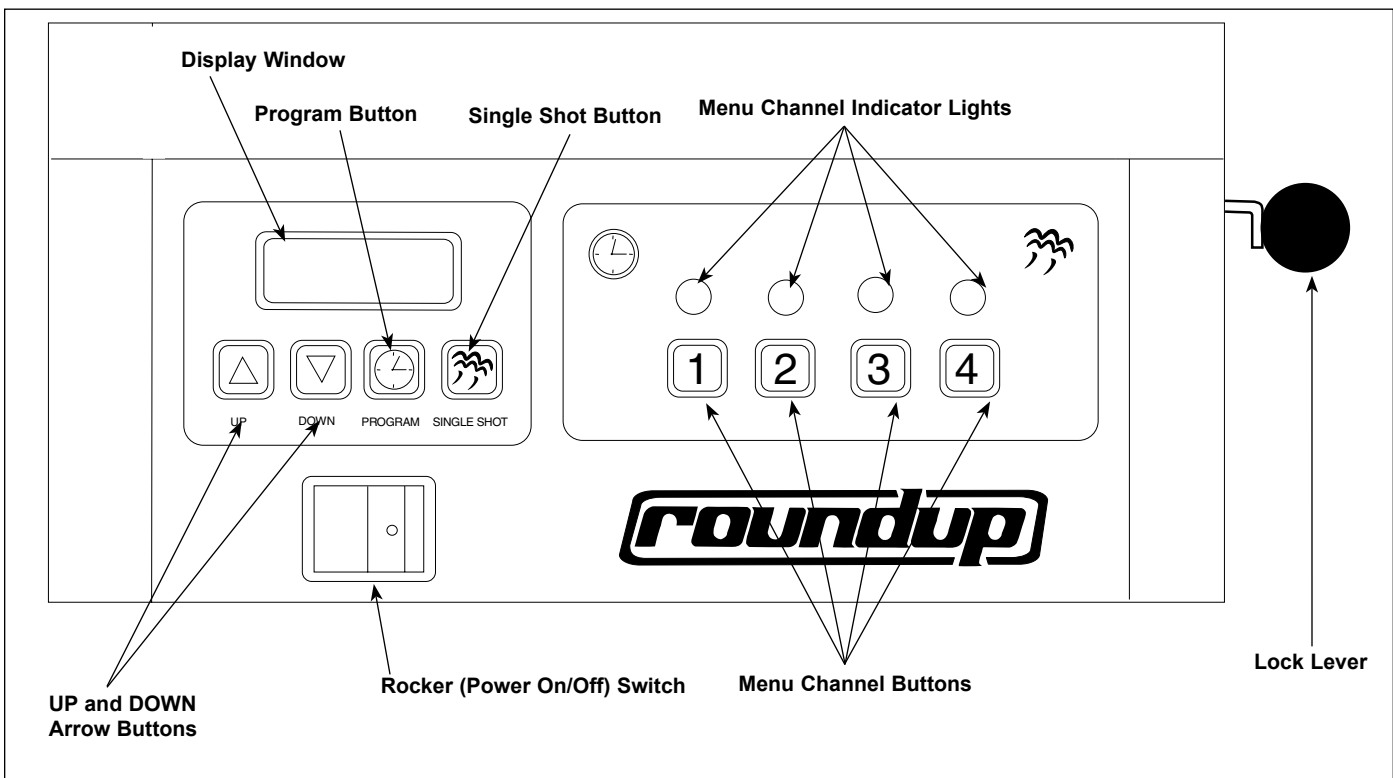

Figure 3. Operator Controls
The Single Shot button (Figure 3) is pressed and released to initiate a single shot. The Control Board applies power to the solenoid and a single “shot” of steam occurs.
The desired timed steaming cycle (up to 99 minutes and 59 seconds) is selected by pressing and releasing any of the four menu buttons (Figure 3). The main Control Board applies power to the solenoid at regular intervals for the duration of the displayed cycle time. The display counts down to zero when the cycle is complete, then reverts back to the original programmed cycle time and the unit is ready for the next cycle.
The actual generator temperature can be viewed by depressing the UP arrow button (Figure 3) at any time. The arrow buttons are used with the other buttons to program the unit (see the Programming section of this manual for more information).
1. Turn the Rocker Switch (power On/Off) to ON (Figure 3). Allow 30 minutes to preheat the unit.